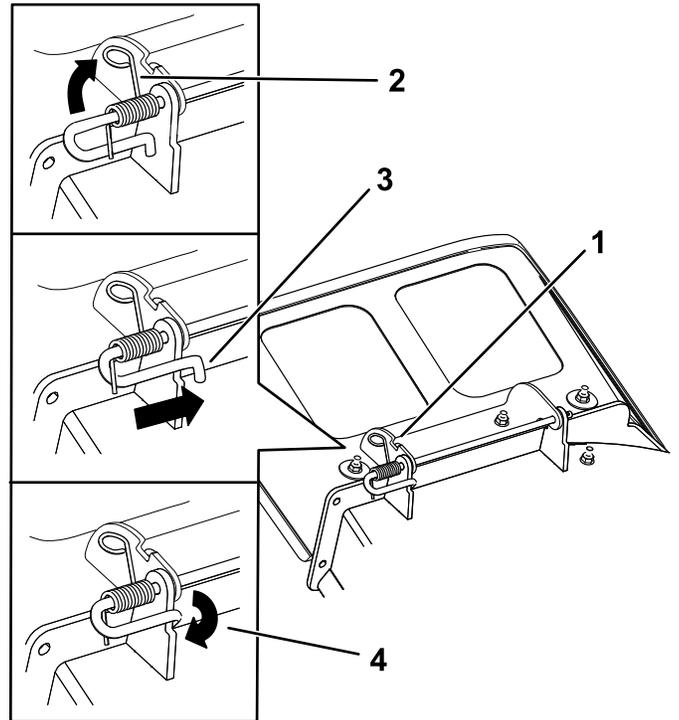

Figure 63
3. Position the new discharge deflector with the bracket ends between the welded brackets on the deck as shown in Figure 63.
5. Position the spring on the rod as shown in Figure 63 so that the shorter spring end comes from under the rod before the bend and going over the rod as it returns from the bend.
6. Lift the loop end of the spring and place it into the notch on the deflector bracket (Figure 63).
7. Secure the rod and spring assembly by twisting it so that the short end of the rod is behind the front bracket welded to the deck (Figure 63).